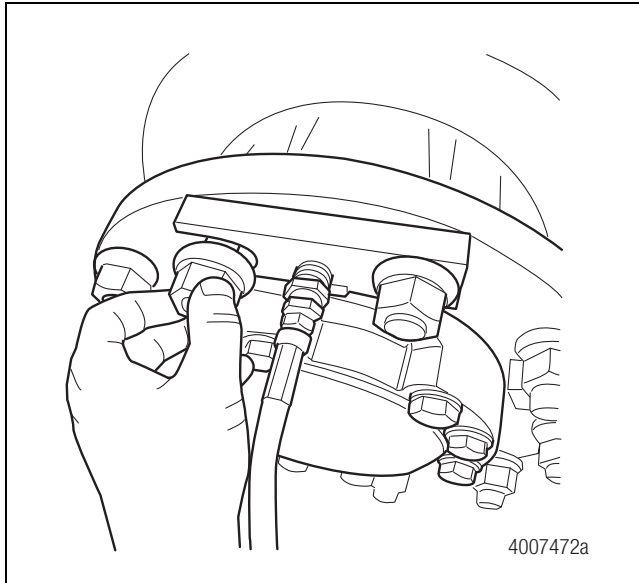

Figure 19.14
8. Install two wheel nuts to secure the air test block to the hub flange. Evenly tighten the wheel nuts by hand. Figure 19.14.